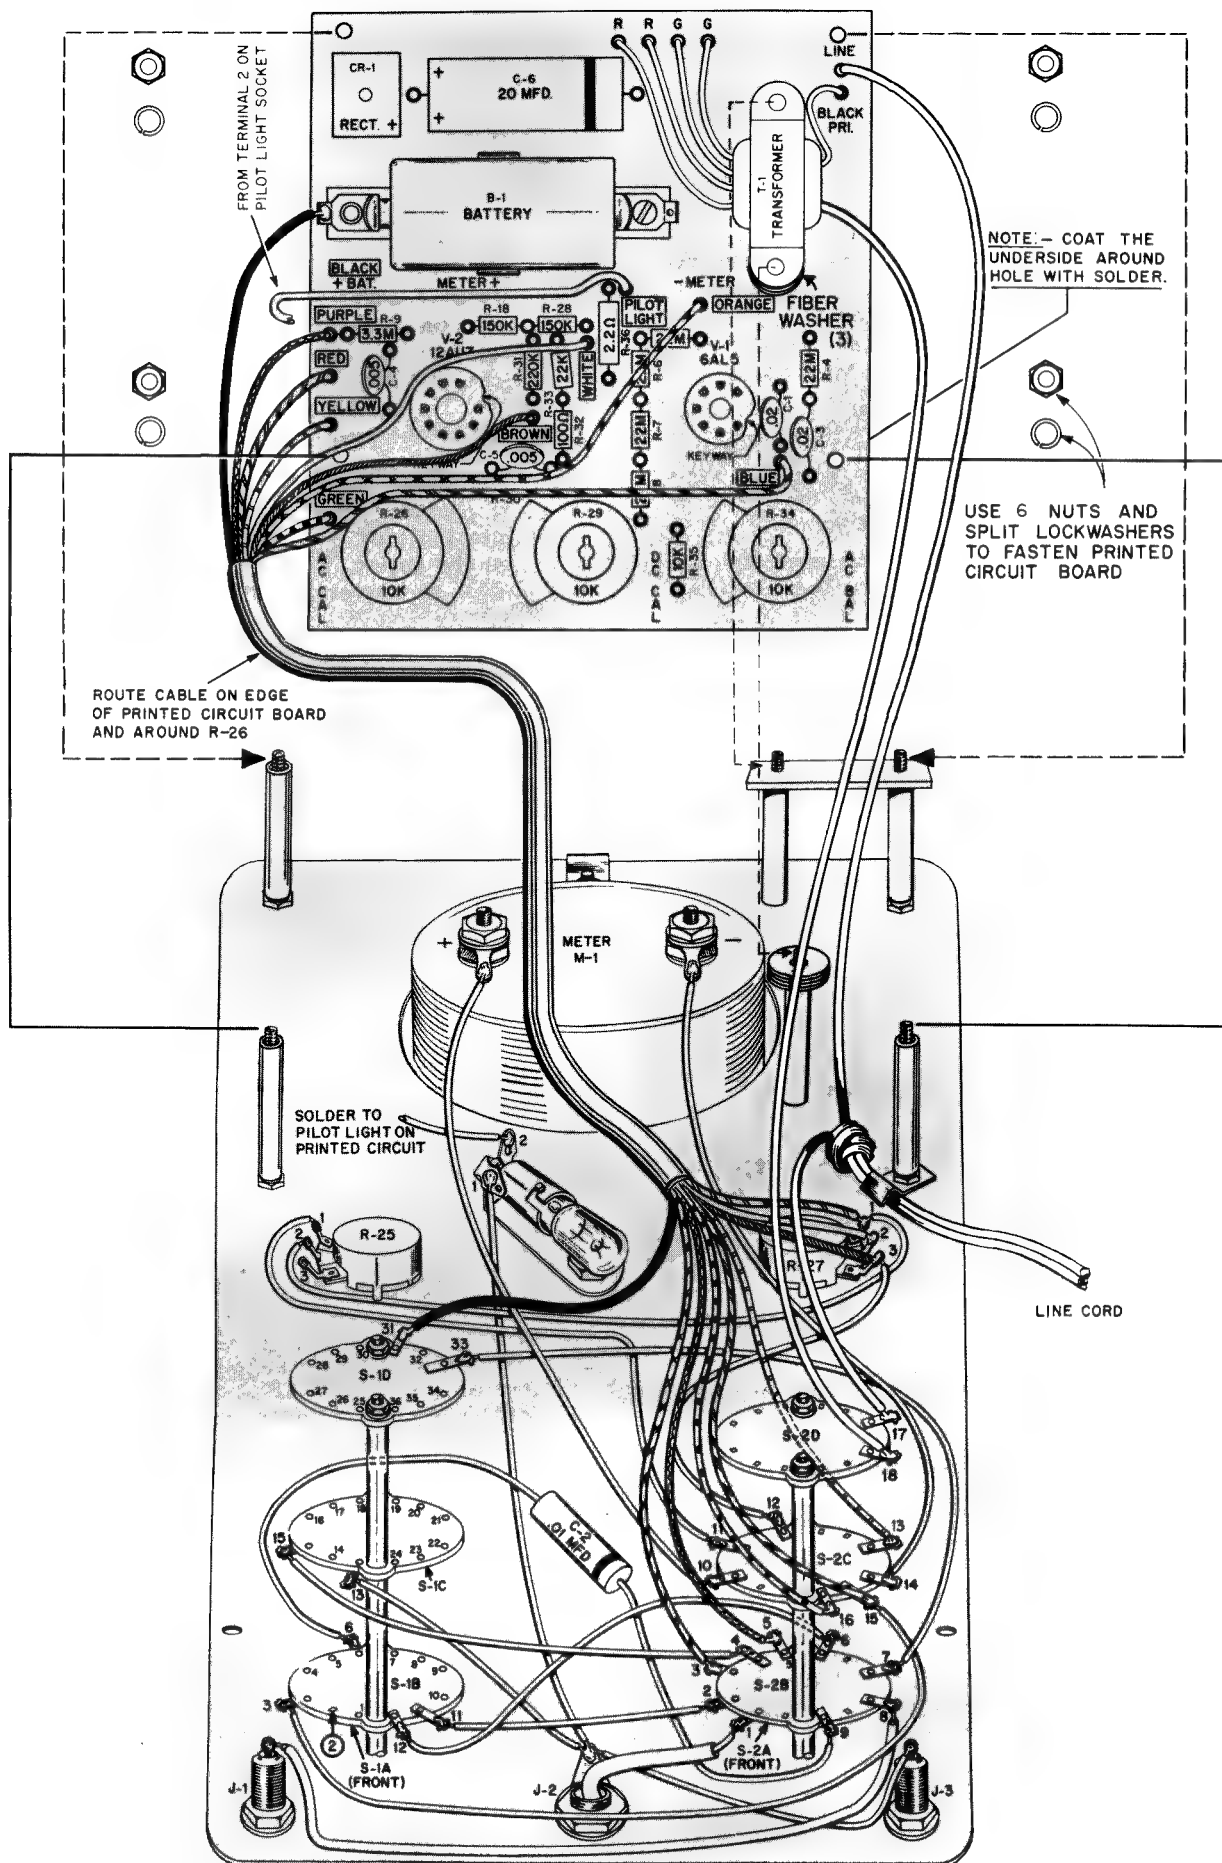

FIGURE 14. HOW TO MOUNT THE PRINTED CIRCUIT BOARD
### SEE FIGURE 14
- ( ) The printed circuit board will be mounted on six mounting screws. First place a large fiber washer on the single screw in the corner of the panel (upper left corner in Figure 14). Then mount the board on the six screws. Place another large fiber washer on top of the board, over the same corner screw. Secure the board with a split washer and nut on each of the four screws, as shown in Figure 14.